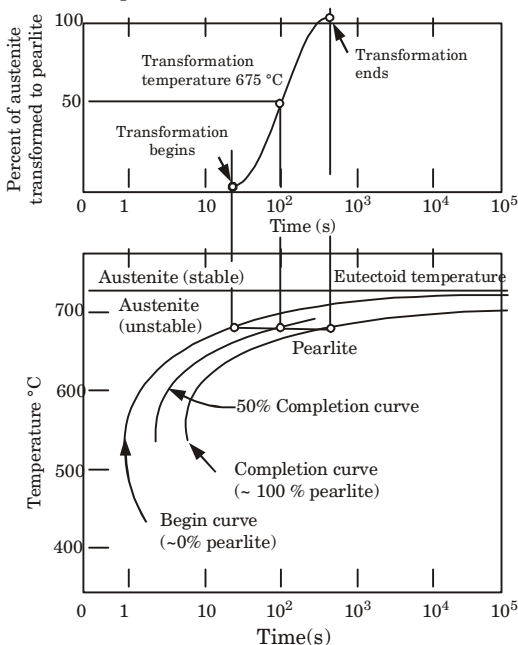

Fig. 10. TTT diagram.
5. In the (Fig. 10) transformation of austenite to pearlite is shown. The left most C-curve shows the starting of transformation of austenite into pearlite.